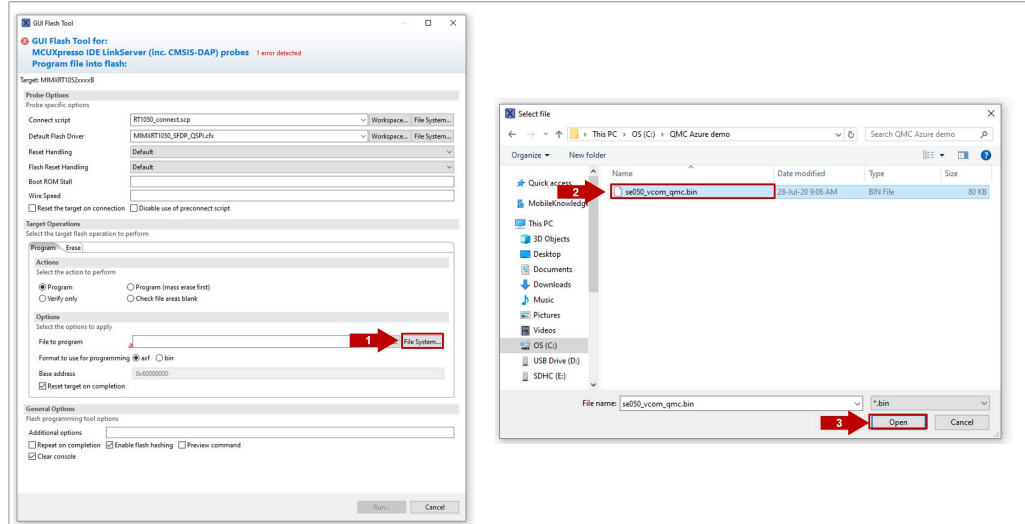

Figure 21. Select VCOM binary file
- From the GUI Flash Tool user interface, select the `se050_vcom_qmc.bin` binary from your file directory, as shown in Figure 21. This binary is also available for download from [www.nxp.com/quadmotorcontrol.com](http://www.nxp.com/quadmotorcontrol.com) webpage in the section of **Tools and Software** with the name of **MCUXpresso Project sample code with Azure**.